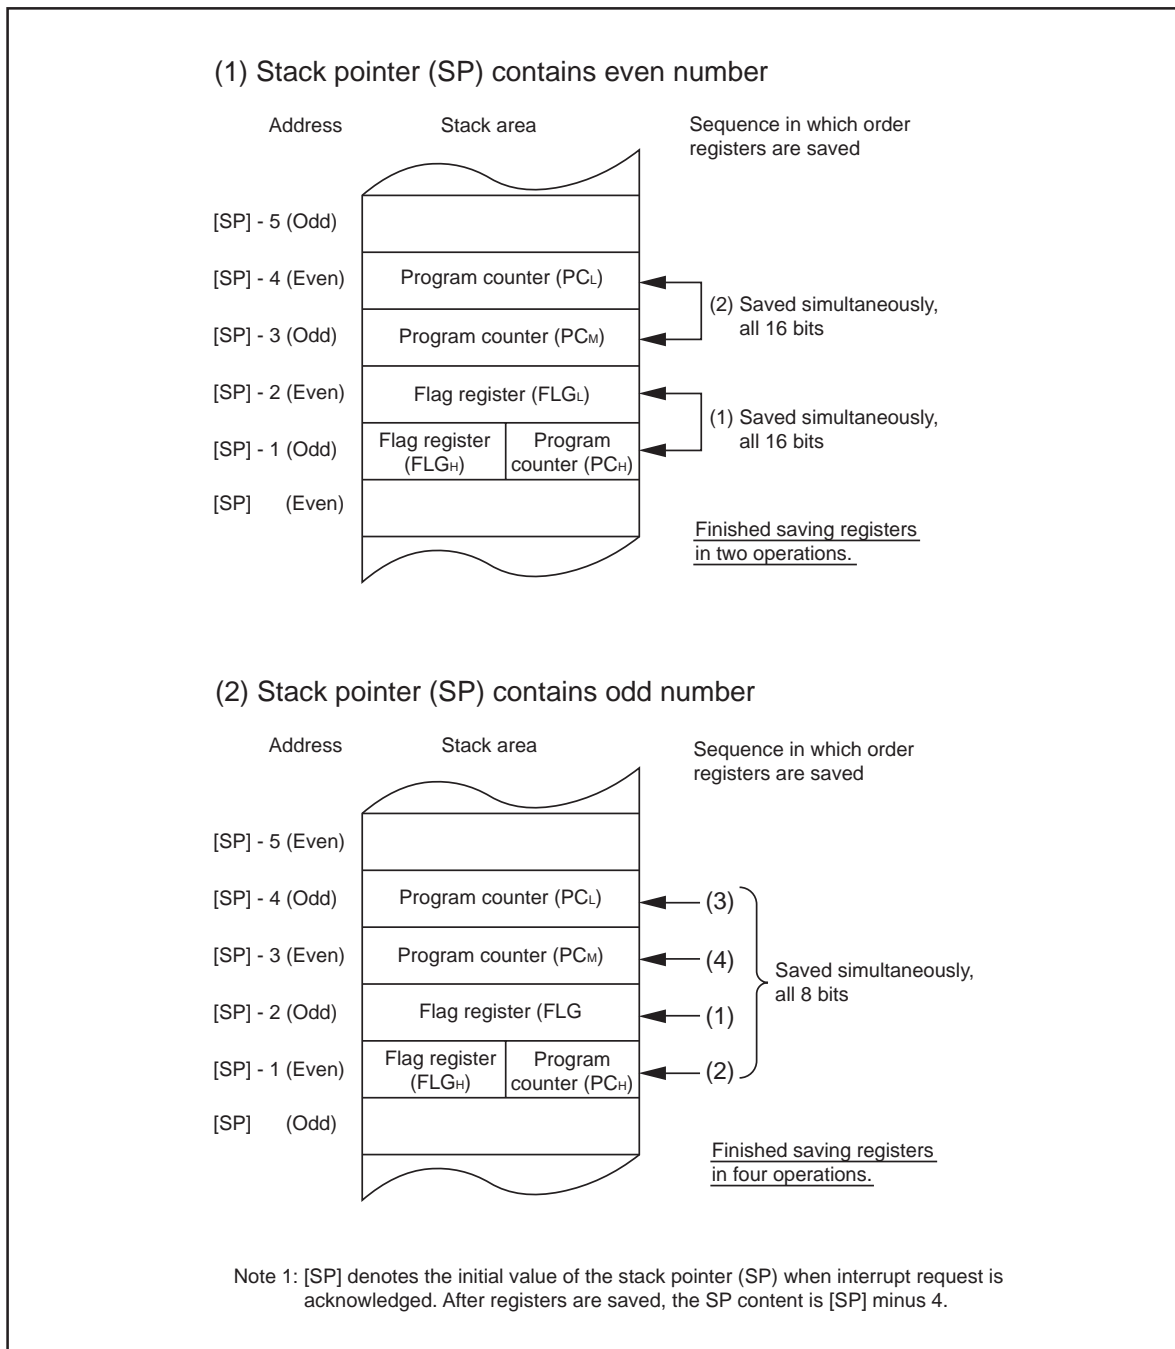

Figure 10.7 Operation of saving registers
The operation of saving registers carried out in the interrupt sequence is dependent on whether the content of the stack pointer (Note 1), at the time of acceptance of an interrupt request, is even or odd. If the content of the stack pointer (Note 1) is even, the content of the flag register (FLG) and the content of the program counter (PC) are saved, 16 bits at a time. If odd, their contents are saved in two steps, 8 bits at a time. Figure 10.7 shows the operation of the saving registers.